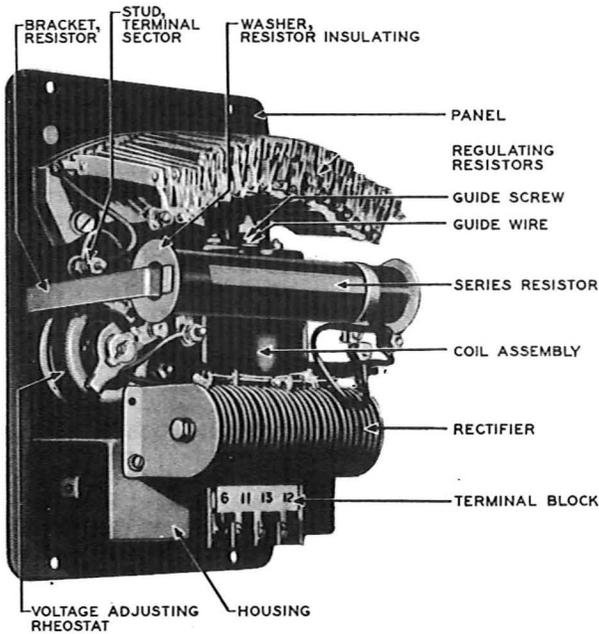

Fig. 18 - Rear View of Allis-Chalmers Type V-00 Voltage Regulator
(2) The voltage adjusting rheostat, shown in Fig.18 which is mounted